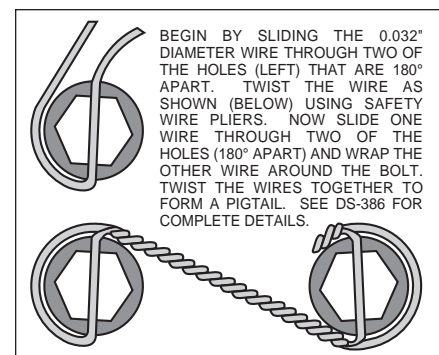

Figure 4. Safety Wire Diagram
- Slide the caliper mounting bracket kit assembly (1) onto the housing flange and then insert the axle assembly through the center hole of the caliper mounting bracket assembly (1) and secure using the stock Original Equipment Manufacturer (OEM) bolts and nuts. Stock OEM hex nuts that retain the caliper mounting bracket assembly (1) should be on the wheel side of the bracket. Apply red *Loctite*® 271 to the stock OEM bolt threads and torque to OEM specifications. Make sure the heads of the caliper mounting bracket assembly (1) insert nuts are **FACING OUTWARD TOWARDS THE WHEEL**.
- Align the correct hole pattern in the rotor (2) with the stud pattern on the axle flange. **NOTE:** Some OEM and after market axles come with stud sizes larger than 0.50" diameter. Verify stud size and have a qualified machine shop drill the bolt circle of the rotor to the correct stud size, if necessary. Slide the rotor (2) over the wheel studs covering the mounting bracket assembly (1) and against the axle flange face.
- NOTE:** Please reference the caution statement at the beginning of the assembly instructions. **WITH THE BLEED SCREWS POINTING UP**, mount the caliper (3) over the rotor (2) and onto the caliper mounting bracket (1) using lock washers (4) and mounting bolts (5). View the rotor through the top opening of the caliper. The rotor should be aligned in the center of the caliper. If not, adjust the caliper by using 0.032 inch shims (6) by placing them between the caliper mounting bracket (1) and the caliper (3). Apply red *Loctite*® 271 to the mounting bolt threads (5), torque to 30 ft-lb. Safety wire the caliper mounting bolts (5) using standard 0.032 inch diameter stainless steel safety wire as shown in Figure 4. Please refer to Wilwood's data sheet DS-386 (available at www.wilwood.com/pdf/ds386.pdf) for complete safety wire installation instructions.
- Position the Wilwood disc brake pads (7) into the caliper (3) and fasten with cotter pin (8). Steel backing plate side of brake pad should face the caliper pistons.
- Before final installation of the wheel, install a couple of lug nuts and adjust the parking brake shoes outward (using a drum shoe adjustment tool available at your local auto parts store) while spinning the rotor/hat (2) until a slight drag is felt again the hat/drum.